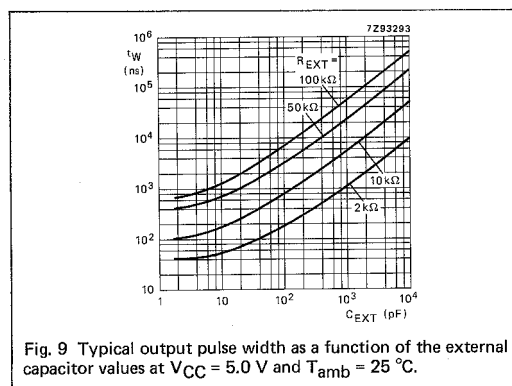

Fig. 9 Typical output pulse width as a function of the external capacitor values at  $V_{CC} = 5.0$  V and  $T_{amb} = 25$  °C.
1. For other  $R_{EXT}$  and  $C_{EXT}$  combinations see Fig. 9.